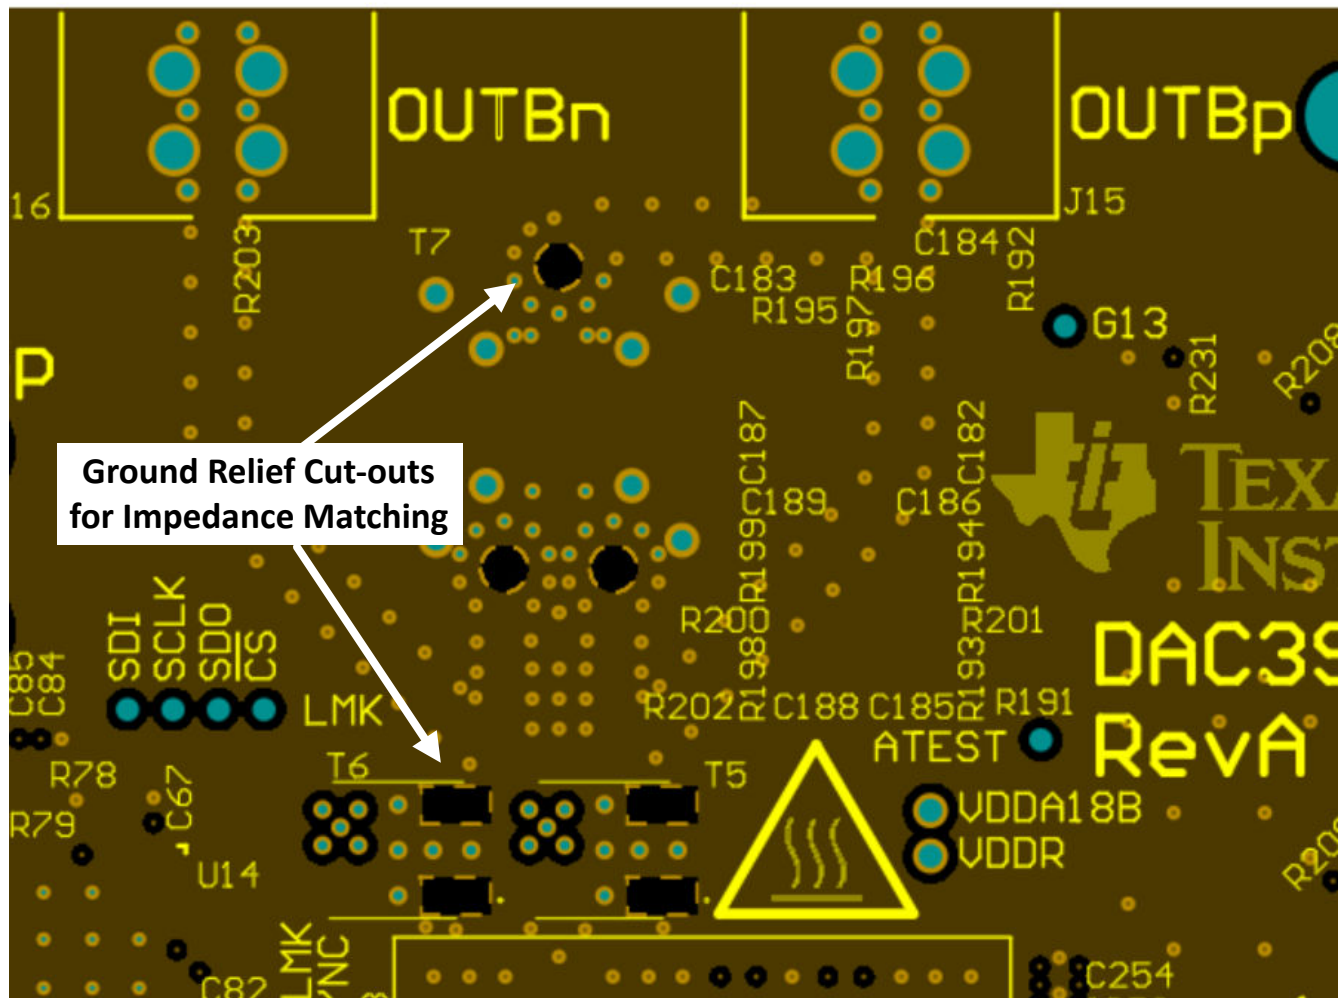
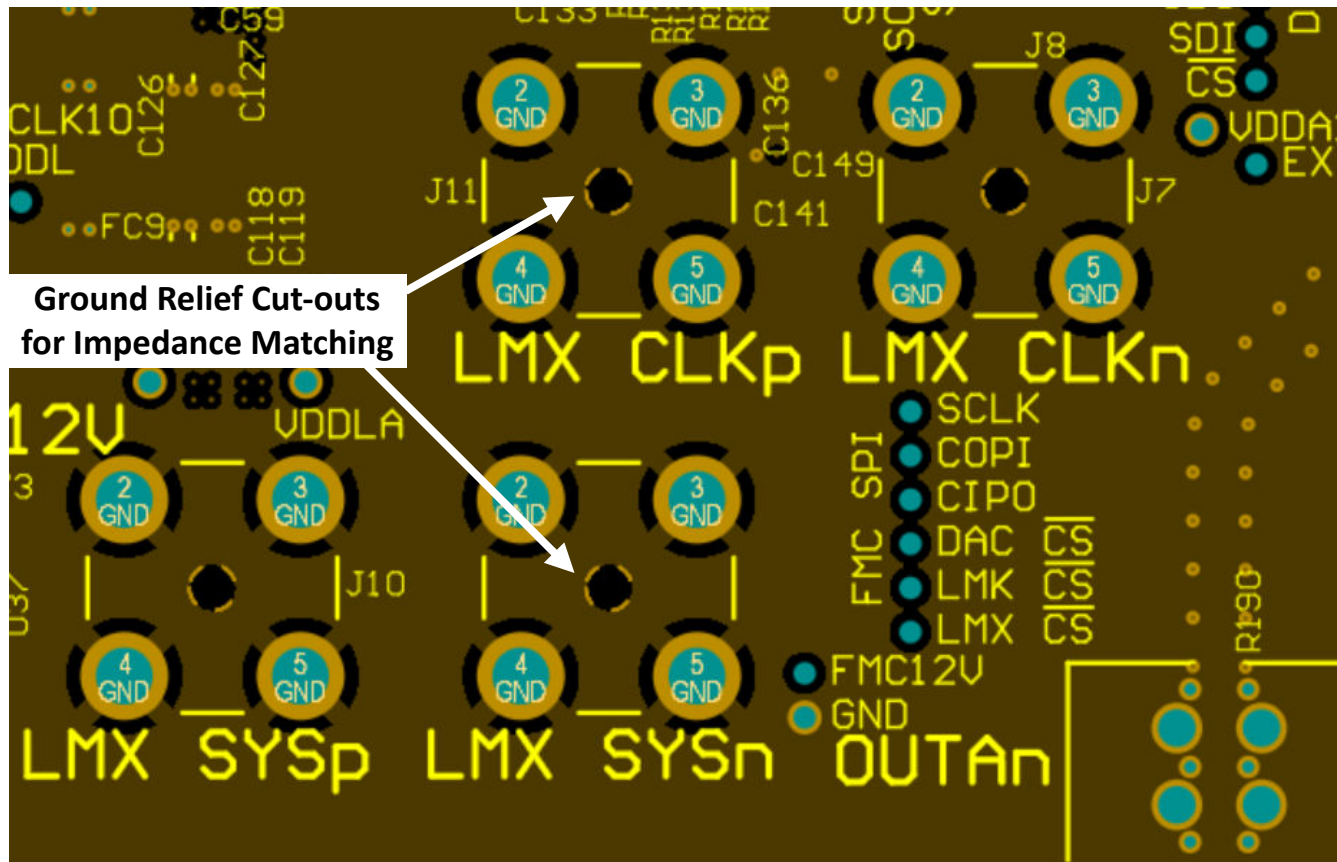

Figure 8-24. Ground Cut-outs below Balun and Bias-T Pins
Figure 8-25. Ground Cut-out Below SMA Connector Center Pin
5. Incorporate any ground plane cutouts necessary at component landing pads, ie – SMA connectors, baluns, and so on, to avoid impedance discontinuities at these locations. Cut-outs below these landing pads on one or multiple ground planes to achieve a pad size or stackup height that achieves the needed 50Ω, single-ended impedance. See Figure 8-24 and Figure 8-25 as an examples.